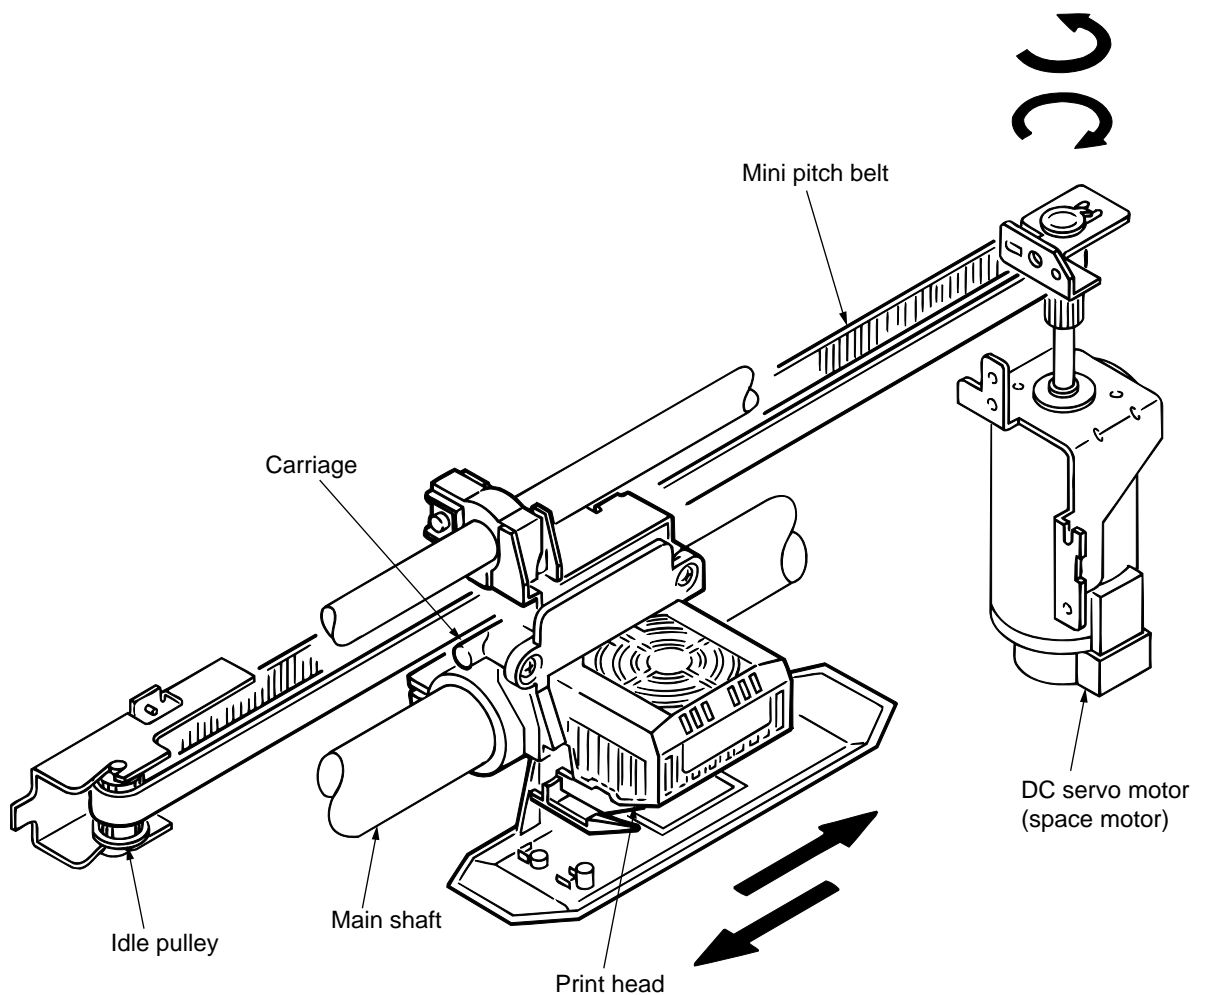

Figure 11-4. Space Mechanism
(1) Spacing (See Figure 11-4.)